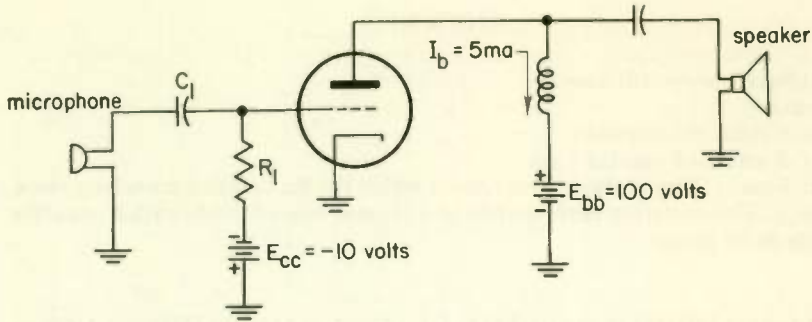
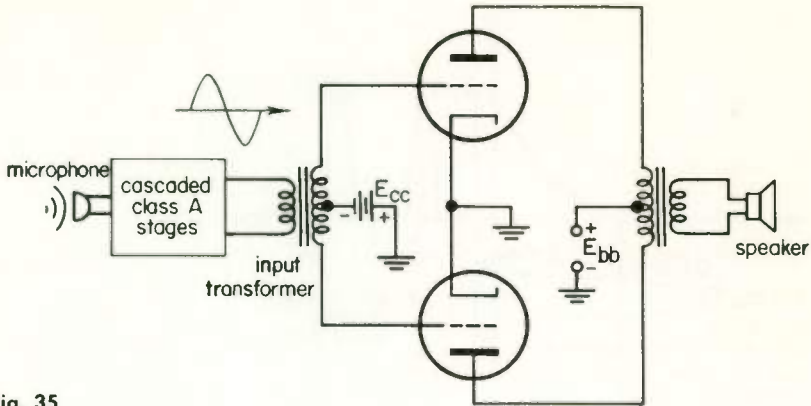

Fig. 29
Fig. 35
1. Figure 29 shows a class A audio amplifier with microphone input and speaker output. Can any a-c microphone current flow to ground through C_1 and the grid-cathode portion of the tube? Why? (a) _____ . The only current which is drawn out of the microphone is the small value of current that leaks off across the high impedance of (b) _____. The no-signal d-c plate current is 5 ma, and the plate supply voltage is 100 volts. The power dissipated in the tube in heat due to the d-c plate current level is (c) _____ watt with no signal applied. If a signal is now applied, is this power still lost in heat? (d) _____
2. What would happen if resonant tank circuits were added to the amplifier operating in Fig. 29?
1. Figure 35 shows a class B push-pull amplifier used as a final stage in a public address system. The output of the microphone must first be amplified by several cascaded class A stages. It cannot be directly applied to the input of the class B amplifier because a class B amplifier requires considerably (a) *more* (*less*) driving power than a class A amplifier. This increased driving power is required because, at the peaks of the input signal, current will flow in the input circuit through the input transformer and the (b) _____ portion of the tubes. If you do not speak into the microphone, how much current will a d-c milliammeter in series with E_{bb} read? (c) _____. A sinusoidal input signal is shown entering the amplifier. The upper tube conducts during (d) _____ degrees of one cycle of this input signal, while the lower tube conducts during (e) _____ degrees of one cycle of the input signal. This push-pull class B amplifier could probably deliver 20 watts of audio to the speaker with some small distortion; compare this with the class A audio stage of Fig. 29 which delivers 0.1 watt of distortionless output.
1. AB_1 and AB_2 operation occur when you bias somewhere between the class A operating point and (a) _____. Suppose you took the amplifier of Fig. 35 and changed E_{cc} so that the tubes were biased not at cutoff but at a value slightly less than cutoff. You would then be operating the amplifier class (b) _____ if you drove the grids hard enough to draw current on peaks. On the other hand, if you did not drive it hard enough to draw grid current, you would be operating the amplifier class (c) _____. The efficiency of the amplifier would go (d) (up) (down) after you changed E_{cc} from its value at cutoff. The distortion of the amplifier would go (e) (up) (down) after you changed E_{cc} from its value at cutoff.